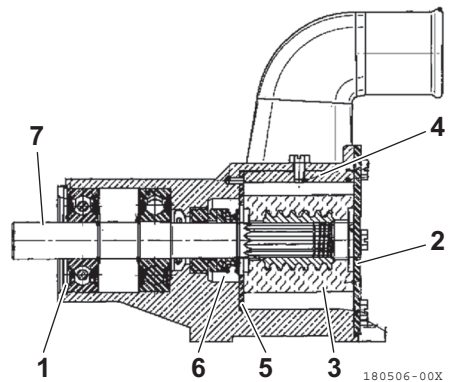

Figure 18
3. Remove the circlip (**Figure 18, (1)**).
4. Remove the end cover (**Figure 18, (2)**), and then remove the impeller (**Figure 18, (3)**), cam (**Figure 18, (4)**), wear plate (**Figure 18, (5)**), and seal (**Figure 18, (6)**).
5. Push the shaft kit (**Figure 18, (7)**) from the end cover side to remove it.
10. Install the impeller (**Figure 18, (3)**), cam (**Figure 18, (4)**), wear plate (**Figure 18, (5)**), and seal (**Figure 18, (6)**) from the side where the end cover was installed.
11. Install the end cover (**Figure 18, (2)**).